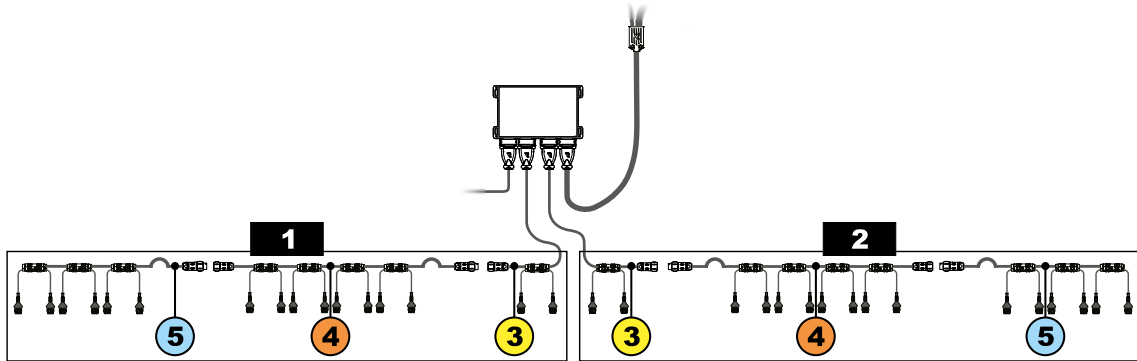

Fig. 21
**1** The Seletron units are connected to the IBX100 (Fig. 21) via two main wiring harnesses (**1** and **2**) each made up of three types of cables: head-end cable (**3**), extension cable (**4**) and termination cable (**5**); the termination cable is indispensable in order to close circuit. **The system will not operate without a termination cable.**